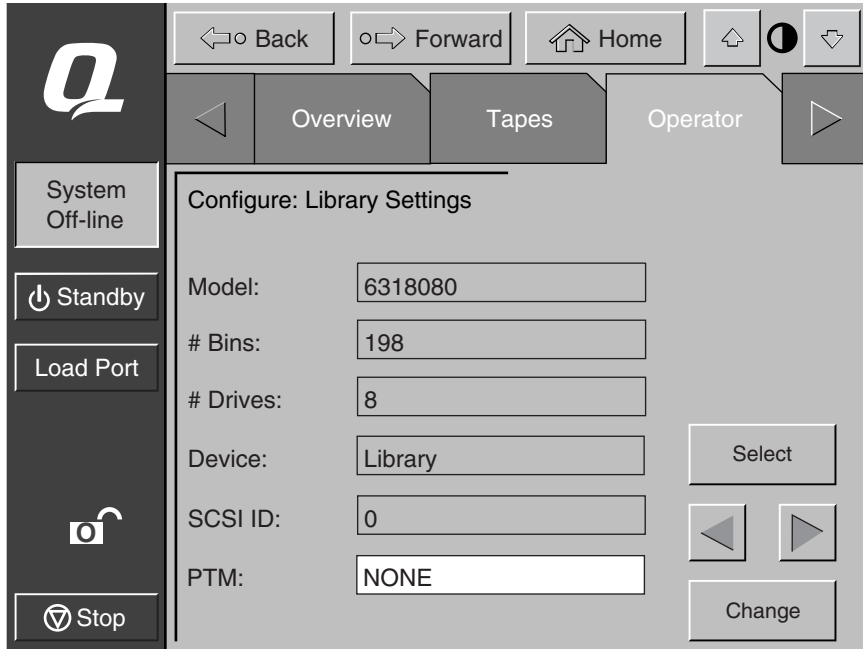

Figure 4-4. Configure: Library Settings screen (ESL9198 shown)
2. Press the **Configure** button. The control panel displays the Configure: Library Settings screen (see Figure 4-4). Ensure that the library is off-line.
To configure the PTM, set the PTM option to either None, Right, Left, or Both (see Figure 4-4). This automatically adjusts the number of bins in the library